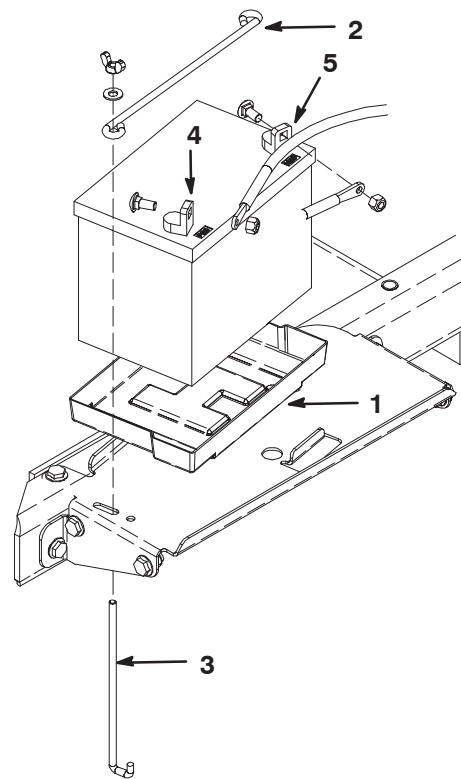

Figure 5
8. Insert the battery into the tray in the battery compartment (Fig. 5) Position the battery so the terminals are to the outside.
9. Secure battery to compartment base with a battery rod, (2) hold down rods, (2) flat washers and (2) wing nuts (Fig. 5).
10. First, secure the positive cable (red) to the positive (+) battery terminal with a carriage bolt and nut (Fig. 5), then the negative cable (black) to the negative (-) terminal of the battery with a carriage bolt and nut (Fig. 5). Slide the rubber boot over the positive terminal to prevent a possible short from occurring.